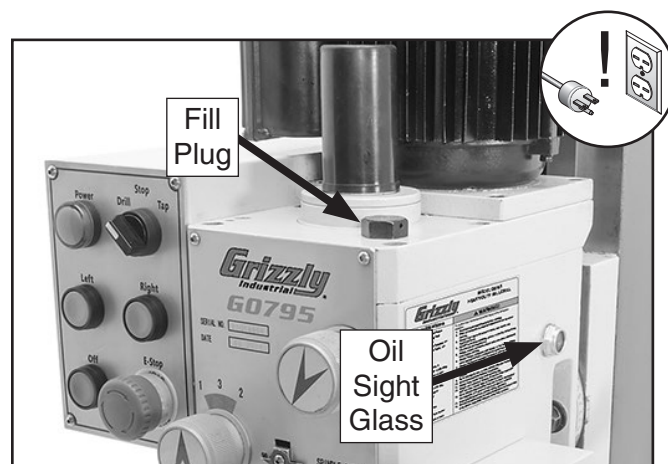

Figure 47. Headstock oil fill plug and sight glass.
The headstock has the proper amount of oil when the sight glass shown in **Figure 47** is halfway full.
3. Remove fill plug (see **Figure 47**).